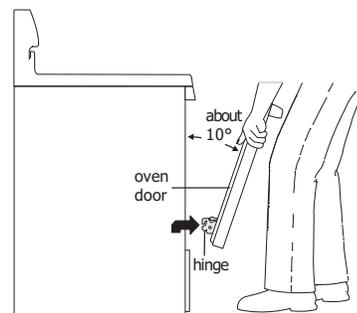

Figure 45: How to remove door
3. Firmly grasp both sides of oven door along the door sides (Do not use the oven door handle - Figure 45).
1. Firmly grasp both sides of oven door along the door sides (Do not use the oven door handle - Figure 45).